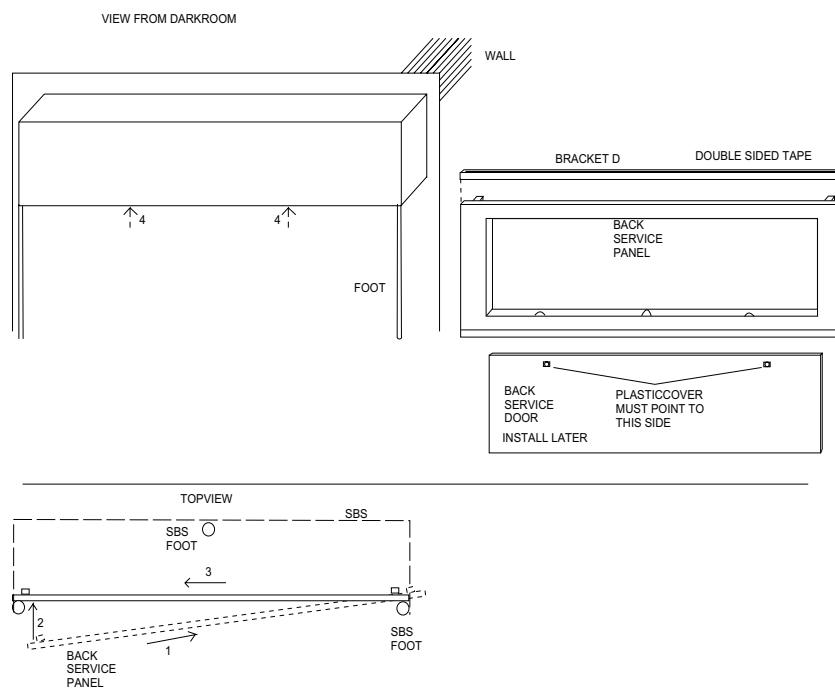

figure 14-6
- 11.** Place BRACKET D on top of BACK SERVICE PANEL (see FIGURE 14-6).
- 13.** Place BACK SERVICE PANEL under the SBS (see FIGURE 14-6, TOP VIEW, STEPS 1..3).